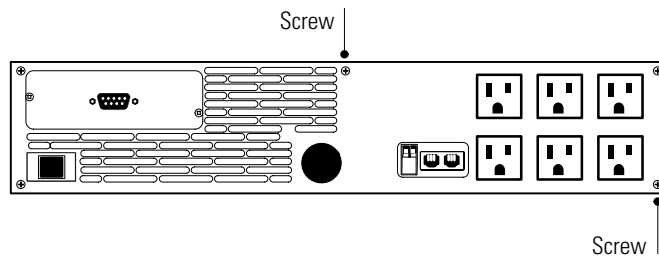

Figure 1. Removing the UPS Screws
6. Remove the two screws on the UPS rear panel and discard (see Figure 1).